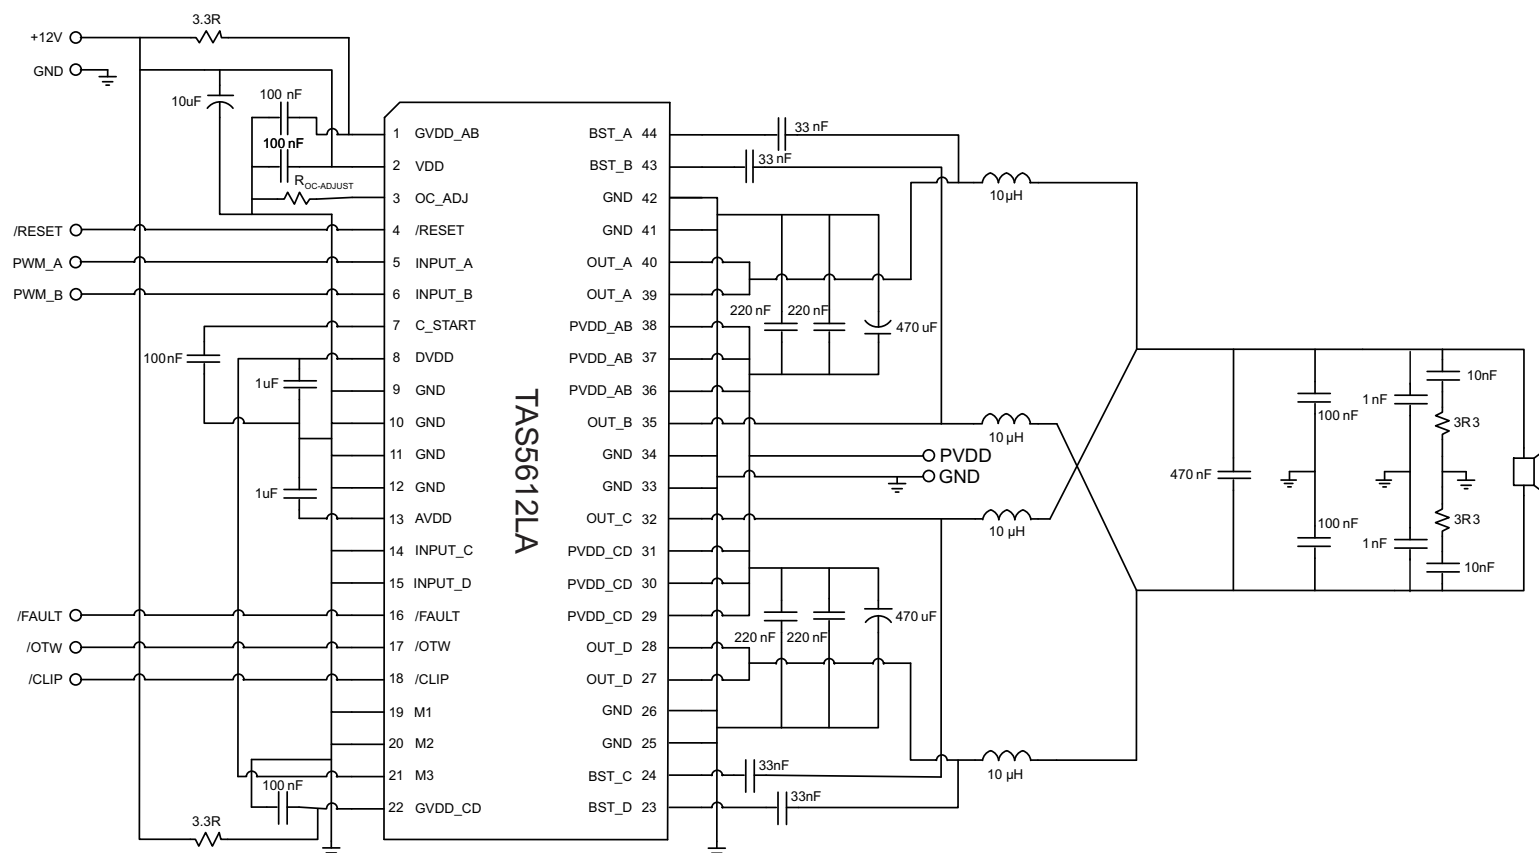

Figure 19. Typical Differential (2N) PBTl Application With AD Modulation Filter
See Figure 19 for application schematic. In this application, one differential PWM input is used with AD modulation from the PWM modulator such as the TAS5558. AD modulation scheme is defined as PWM(+) is opposite polarity from PWM(-). The output PBTL configuration is often used to drive lower impedance load such as a subwoofer.
- Pins 27, 28, 32, 35, 39, 40 - Output pins from half-bridges A, B, C, and D. Connect appropriate bootstrap capacitors and differential LC filter as shown in Figure 19.
- Pins 29, 30, 31, 36, 37, 38 - Power supply pins to half-bridges A, B, C, and D. A and B form a full-bridge and C and D form another full-bridge. A 470-uF bulk capacitor is recommended for each full-bridge power pins. Two 0.22-μF decoupling capacitors are placed on each full-bridge power pins. See Figure 19 for details.